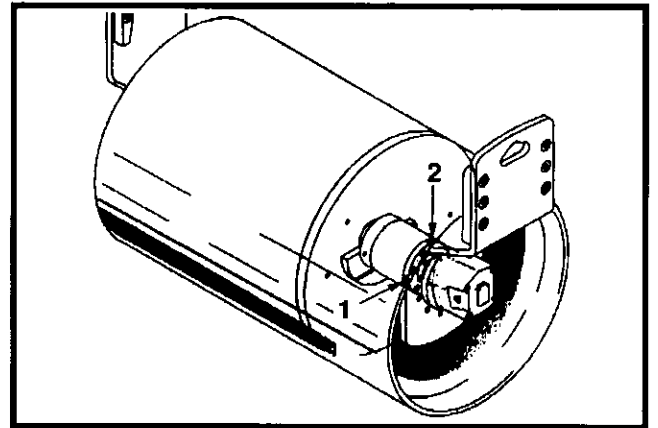

Figure 5-30 Eccentric Oil Fill, Level, Drain ports
2. Position the drum with eccentric plug (1, Figure 5-30) in 6 o'clock position.
5. Remove plug (1, Figure 5-30) and allow oil to completely drain from the housing into a container. Dispose of oil in accordance with local regulations.
7. To check or refill, ensure the fill port (1, Figure 5-30) is in the 3 or 9 o'clock position.